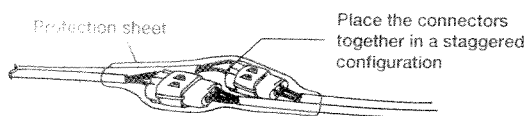

Figure 3-8
9. Put the waterproof connectors together in a staggered configuration, not in layers. Wrap them with the protection sheet (to prevent possible interference with the vehicle). (Figure 3-8)